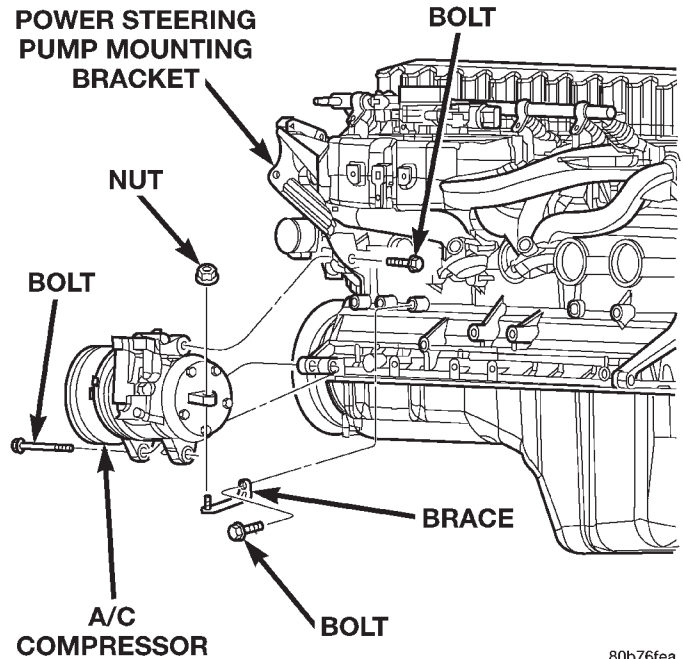
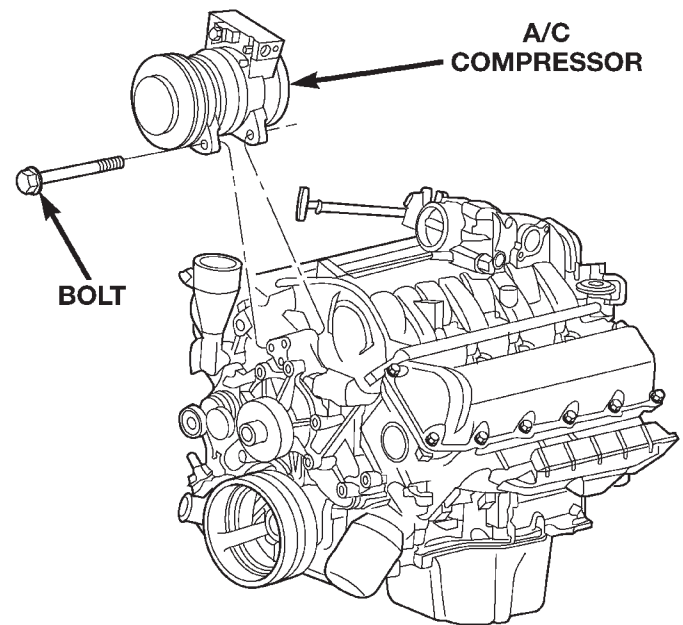
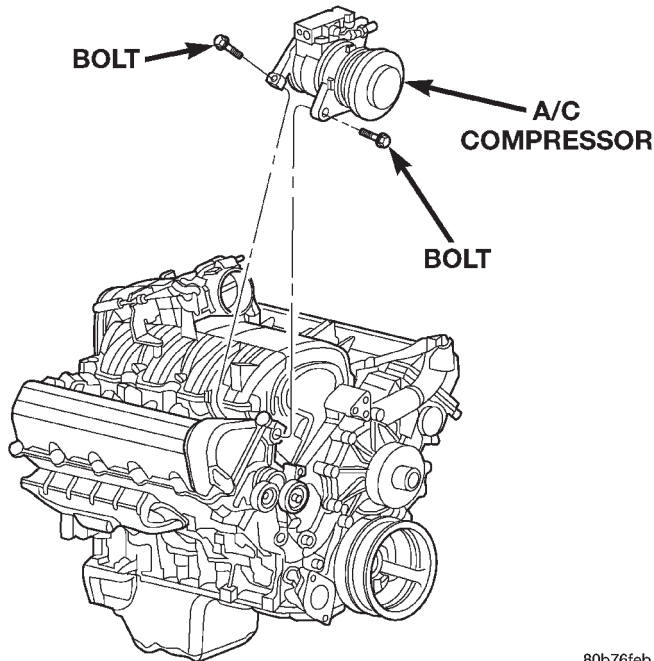

Fig. 28 Compressor Remove/Install - 6 Cylinder Engine
Fig. 29 Compressor Remove/Install - V8 Engine - Left View
Fig. 30 Compressor Remove/Install - V8 Engine - Right View
- (1) Recover the refrigerant from the refrigerant system. See Refrigerant Recovery in this group for the procedures.
- (2) Disconnect and isolate the battery negative cable.
- (3) Remove the serpentine drive belt. Refer to Group 7 - Cooling System for the procedures.
- (4) Unplug the compressor clutch coil wire harness connector.
- (5) Remove the screws that secure the suction line and discharge line block fittings to the manifold on the compressor. Install plugs in, or tape over all of the opened refrigerant fittings.
- (6) Remove the screws that secure the compressor (Fig. 28) or (Fig. 29) and (Fig. 30).
- (7) Remove the compressor.